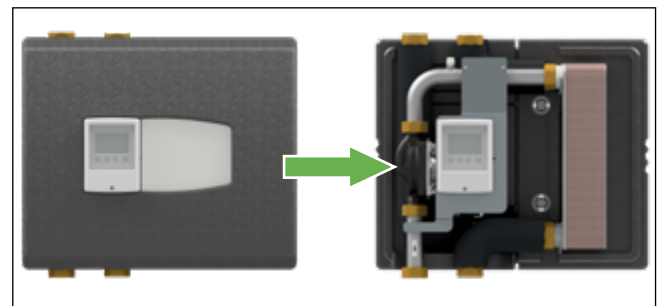

Fig. 8-1: Removing the front cover
2. Remove the front cover of the domestic water unit (Fig. 8-1 on page 11).